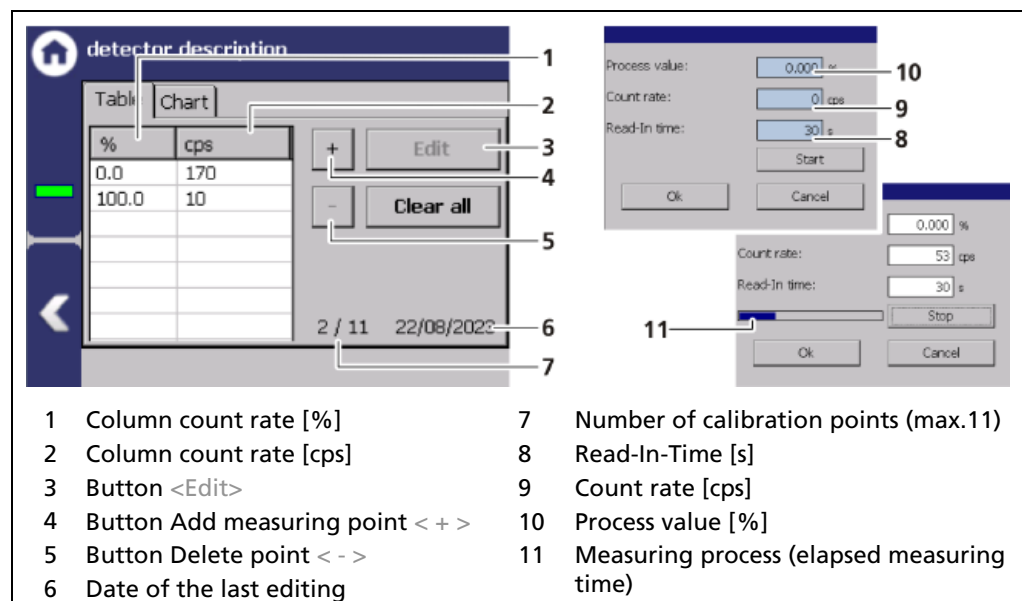

Fig. 71 Parameters for Compensated and Uncompensated Level (Table)
1. Click on the button < + > (Fig. 71, item 4).
- ▶ A window with input fields (Fig. 71, item 8-10) opens.
2. Click on the input field "Process value" (Fig. 71, item 10) to open the input field.
4. Click on the input field "Read-In-Time" (Fig. 71, item 10) to open the input field.
- ▶ The count rate is determined and the elapsed measuring time is shown (Fig. 71, item 11).
- ▶ The count rate is transferred to the field "Count Rate" (Fig. 71, item 9) after the measurement time has elapsed.